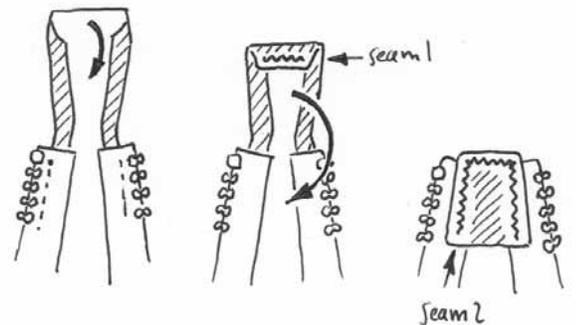

Figure 16
- F. Finish sewing the insert by simply folding the last 1 cm (3/8 in.) along the top of the insert once and top-stitching the hem with the zig-zag stitch, then folding it again down to the top of the zipper and top-stitching it along both sides and top, as shown in **Figure 16**.
- A. Separate the zipper and pin the right half of the zipper to the left edge of the insert's fabric, making sure that the top stop of the zipper is 4.2 cm (1-5/8 in.) from the top edge of the fabric. Pin the zipper tape to the edge of the fabric, right sides together, with the fabric's edge slightly recessed with respect to the zipper tape, as shown on **Figure 16**.